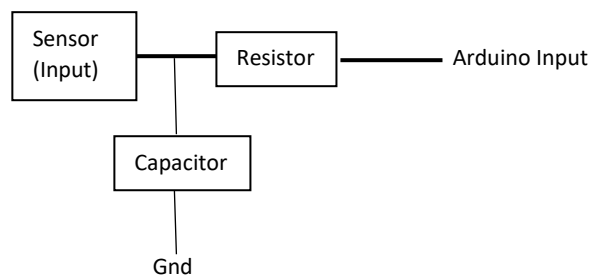

Fig.2
1. Connect the sensor to the analog input of the arduino through LPF as shown in Fig. 2 below.